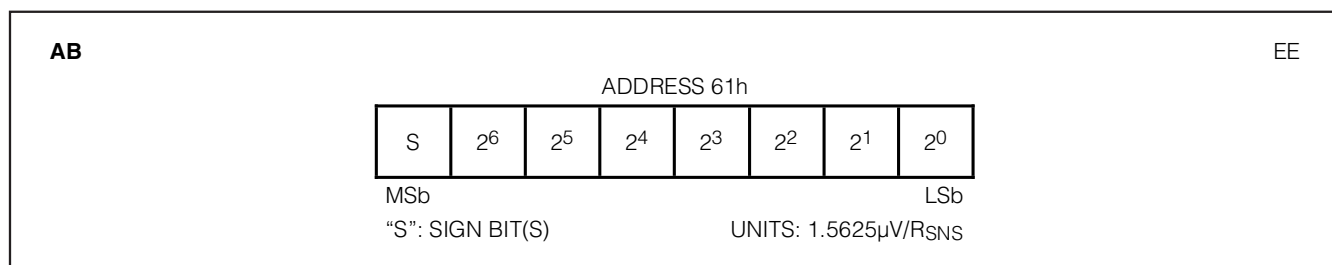

Figure 10. Accumulation Bias Register Formats
The Accumulation Bias (AB) register allows an arbitrary bias to be introduced into the current-accumulation process. The AB can be used to account for currents that do not flow through the sense resistor, estimate currents too small to measure, estimate battery self-discharge, or correct for static offset of the individual DS2788 device. The AB register allows a user-programmed positive or negative constant bias to be included in the current accumulation process. The user-programmed two's complement value, with bit weighting the same as the Current register, is added to the ACR once per current conversion cycle. The AB value is loaded on power-up from EEPROM memory. Figure 10 shows the format of the AB register.